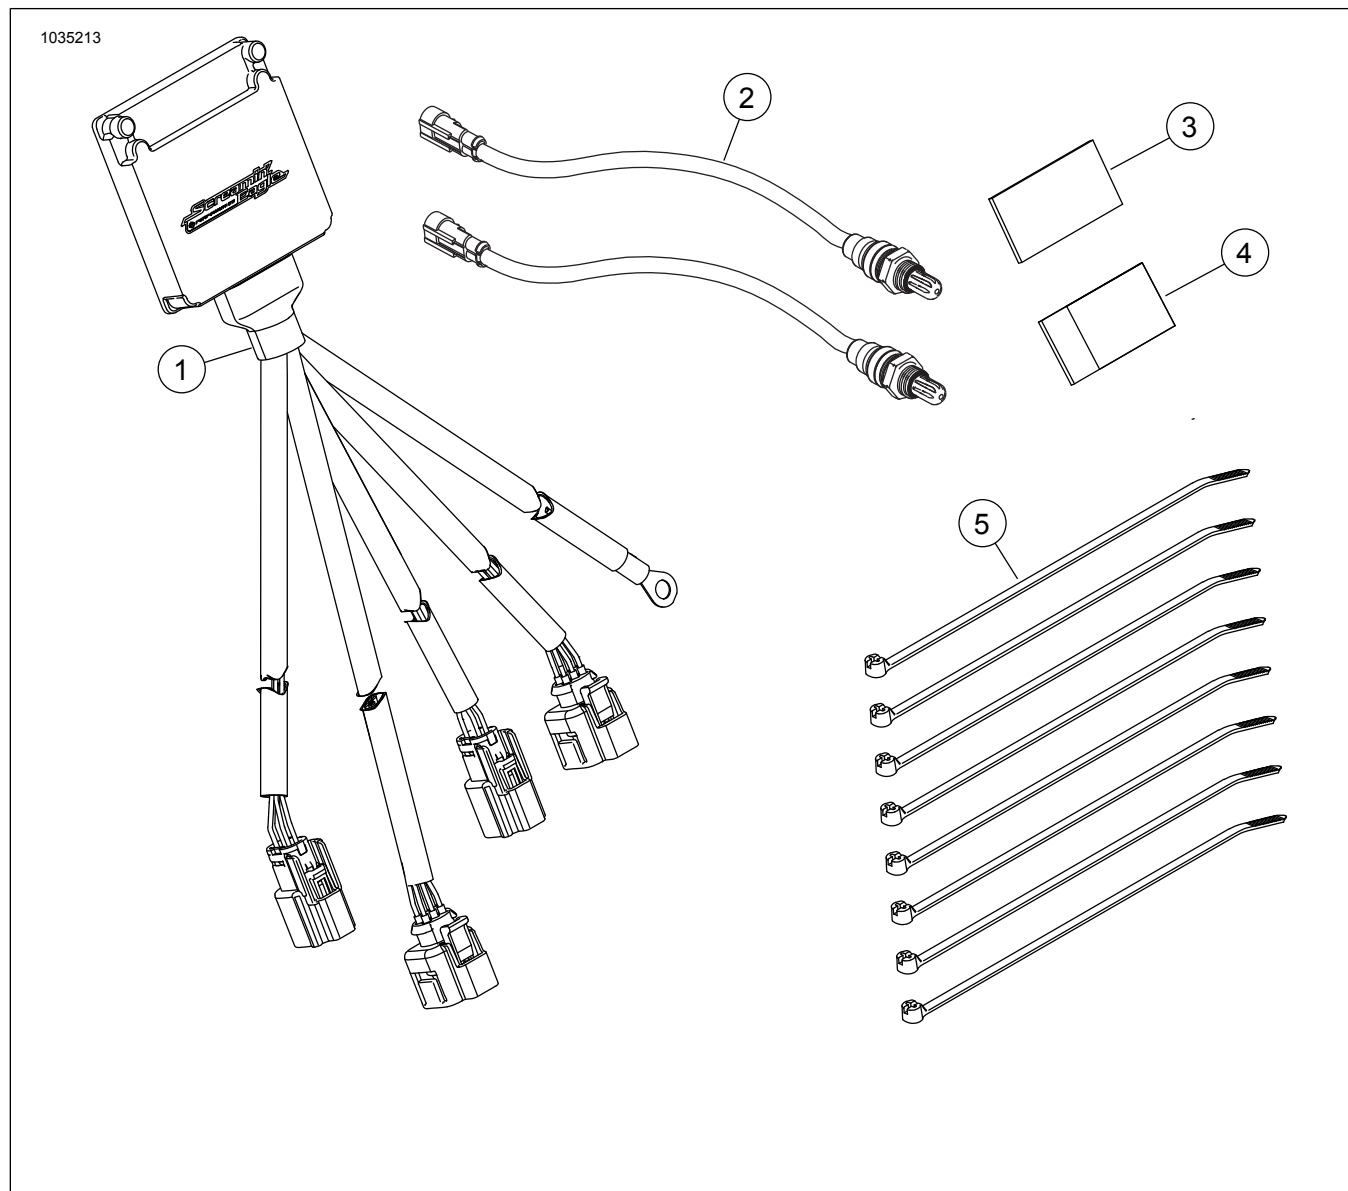

Figure 52. Kit Contents: Smart Tune Pro Automatic Tuning Module (ATM) Kit
See Figure 48, Figure 52 and Table 5. Install wide band oxygen sensors (2). Using Oxygen Sensor Socket (Part No. HD-48262-A) tighten to: